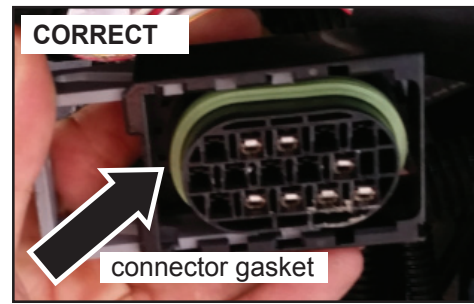

FIGURE A-8
- Referring to Figures A-8 and A-9, inspect the female half of the pin connector. A green connector gasket should be installed; if the gasket is missing, install a new gasket from the recall Kit (see Parts list on Page 9).